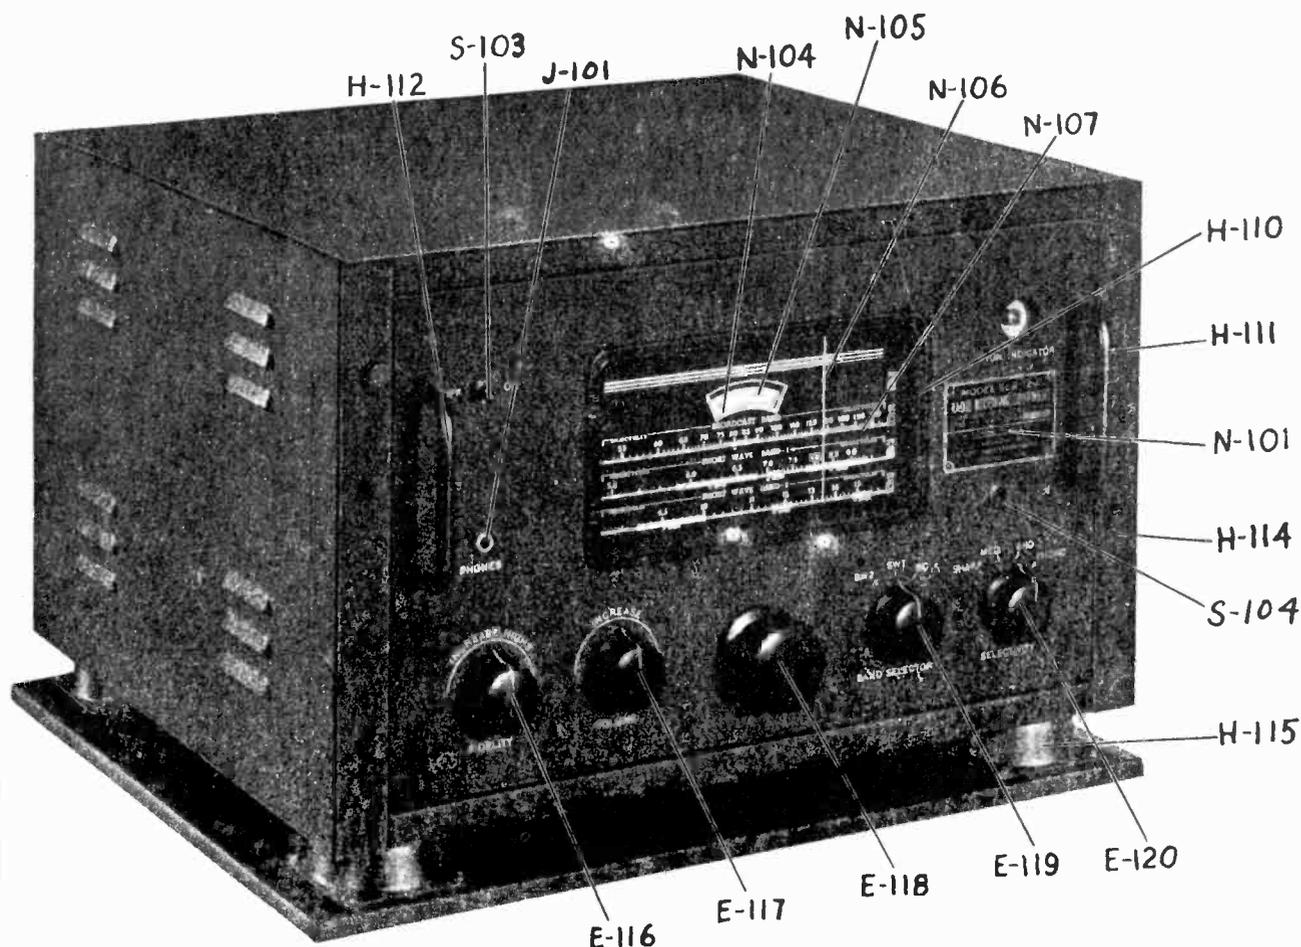

FIG. 1. LEFT FRONT OBLIQUE VIEW, RADIO RECEIVER.
12.31 In case of breakdown or failure of the Model SLR-12-A Radio Receiver, the fault must first be localized in one portion of the circuit. This can be accomplished by observation of some peculiar action of one of the controls or by checking the Receiver against Test Data tabulated in Section 13. Reference to Figures 1 to 9, inclusive, will show the location of any component part of the Receiver. Functions and ratings of component parts are given in Parts List, Section 15.